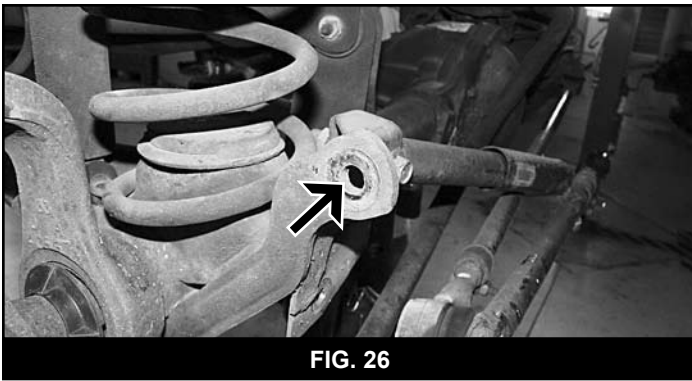

FIG. 26
68. Drill the OE lower sway bar link mount to 1/2" (Fig 26).